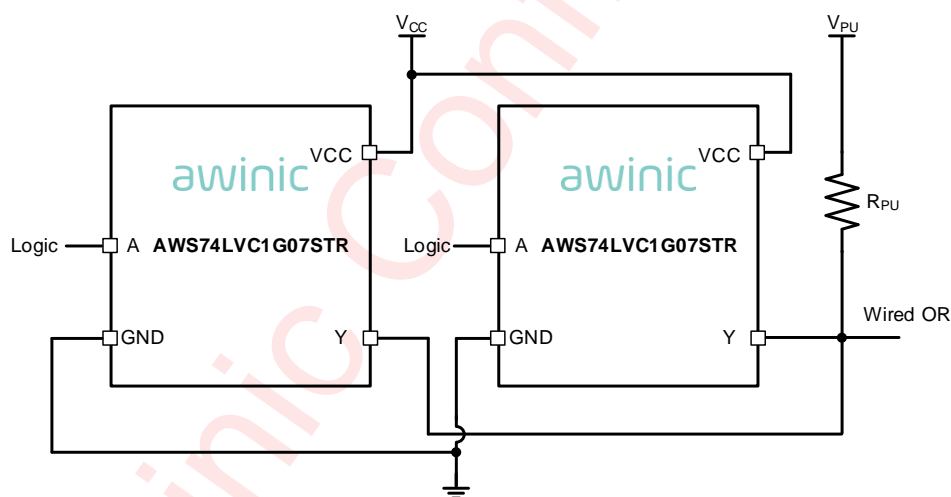

Figure 4 OR Gate Function Application
- Figure 4 shows the AWS74LVC1G07STR being used in an active-low wired-OR functions, outputs should not be pulled above 6.5V.